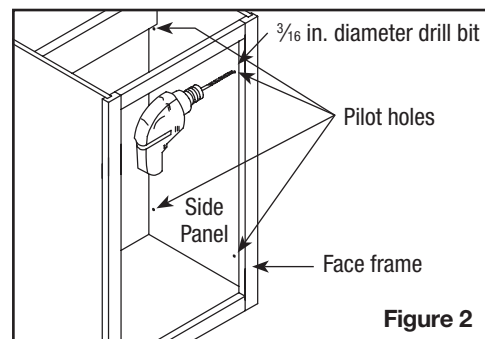

Figure 2
- Pre-drill eight holes around perimeter (1 in. from edge) of cabinet side panel from the inside (Figure 2).